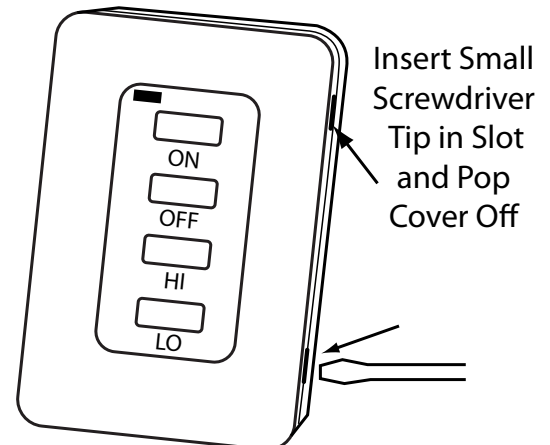

Fig. 2 Front Cover Removal
1. Remove face from backing plate by inserting a small screwdriver into the small slot at the top or bottom of the faceplate as shown then snap OFF (See figure 2). The transmitter operates with (2) 3-volt button (CR2032) cell batteries.
1. Remove face from backing plate by inserting a small screwdriver into the small slot on the side at the top or bottom of the faceplate as shown then snap OFF (See figure 2).
2. Locate the (2) holders for the 3V (CR2032) button cell batteries.
2. Remove the faceplate as shown in figure 2, page 1.